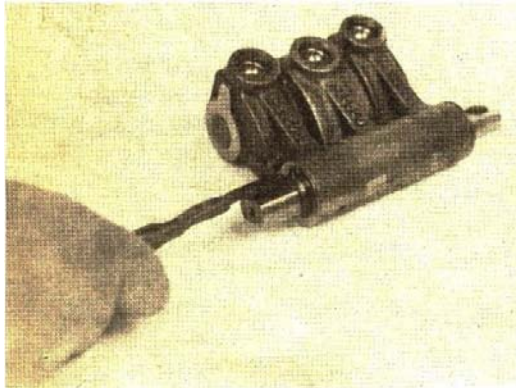

Fig. 4-2. Remove the cam follower retaining ring
1. Remove the retaining rings holding the spacers and followers on the shaft. Fig. 4-2.